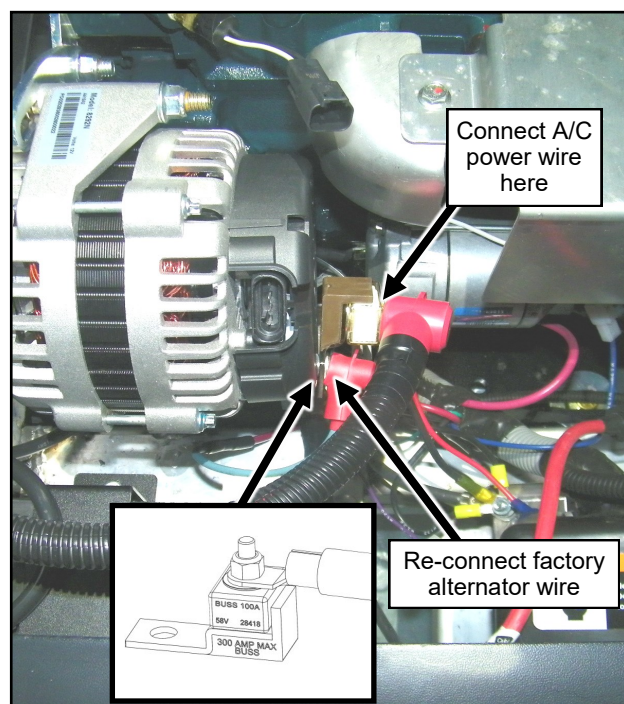

Fig. 5.5 (Connect power to alternator)
- 5.5** Install the supplied 100 amp fuse block and fuse onto the alternator per Figure 5.5, along with the factory alternator power wire. Connect the A/C power harness red wire to the fuse holder with a 1/4-20 lock nut.